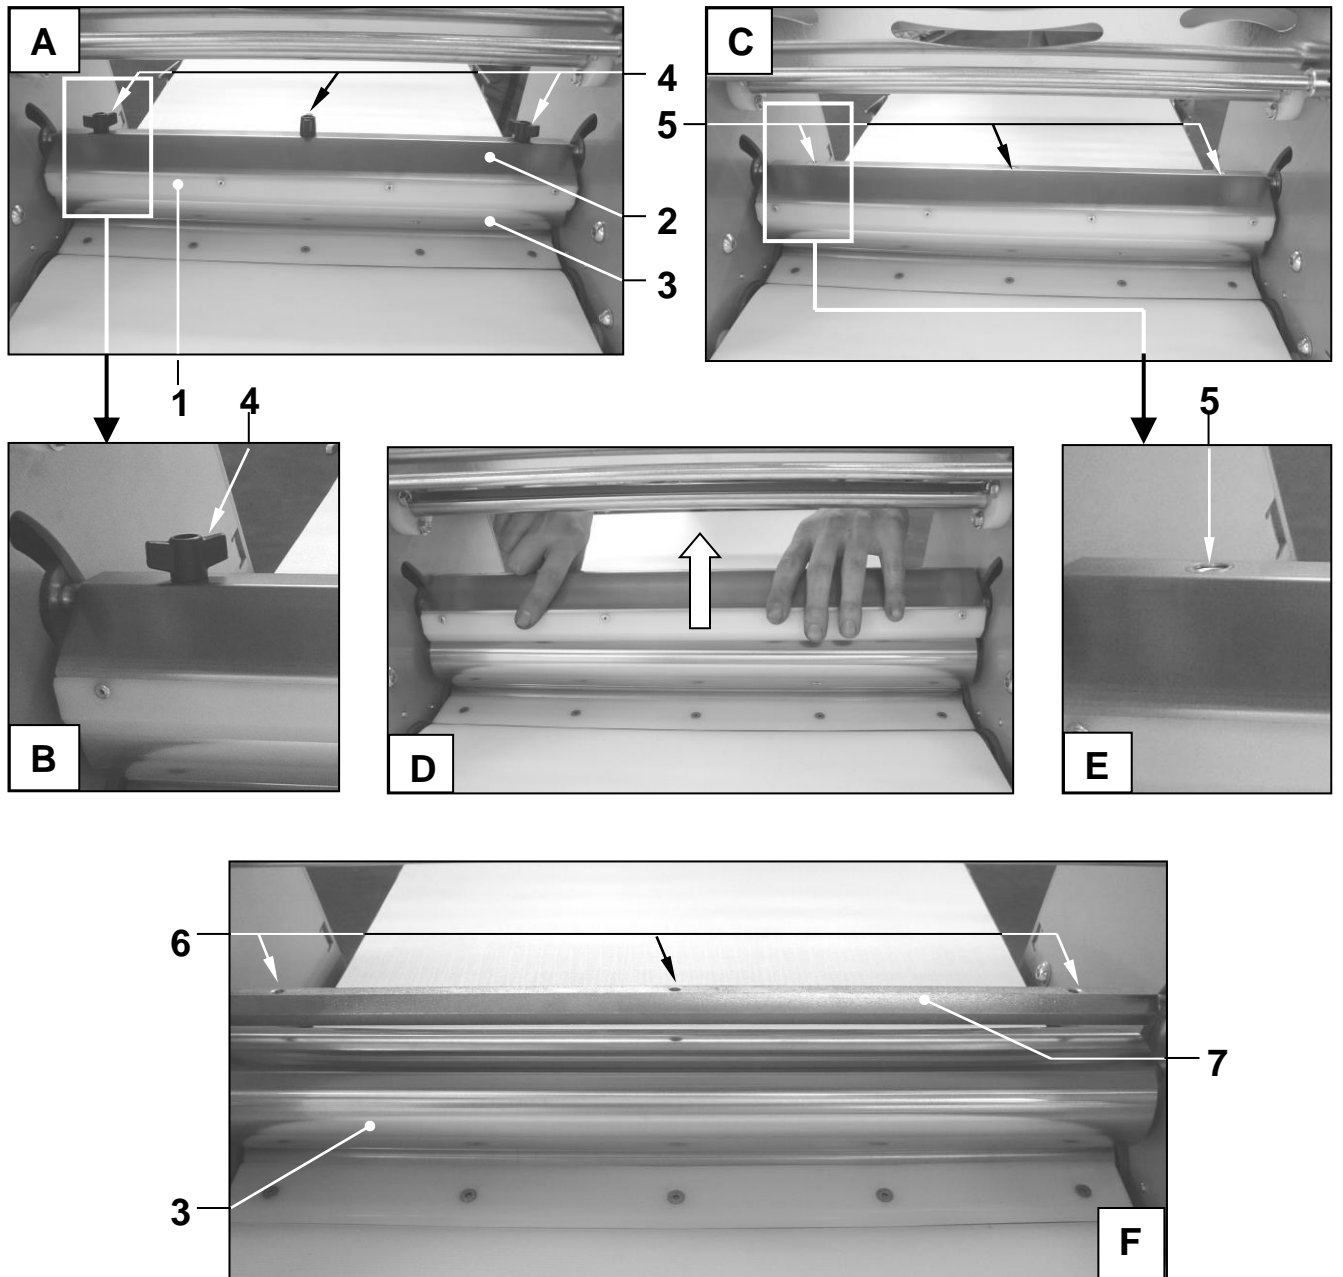

Fig. 7.2
With reference to Figure 7.2, there are two scrapers ref. 1, mounted on a single support ref. 2 positioned astride the upper sheeting roller ref. 3.